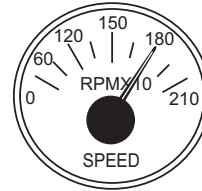

Figure 54. Engine Tachometer Gauge
11. The **tachometer gauge** (Figure 54) will indicate the speed of the engine in **RPM**. Under normal operating conditions this speed is approximately 1,800 rpm.